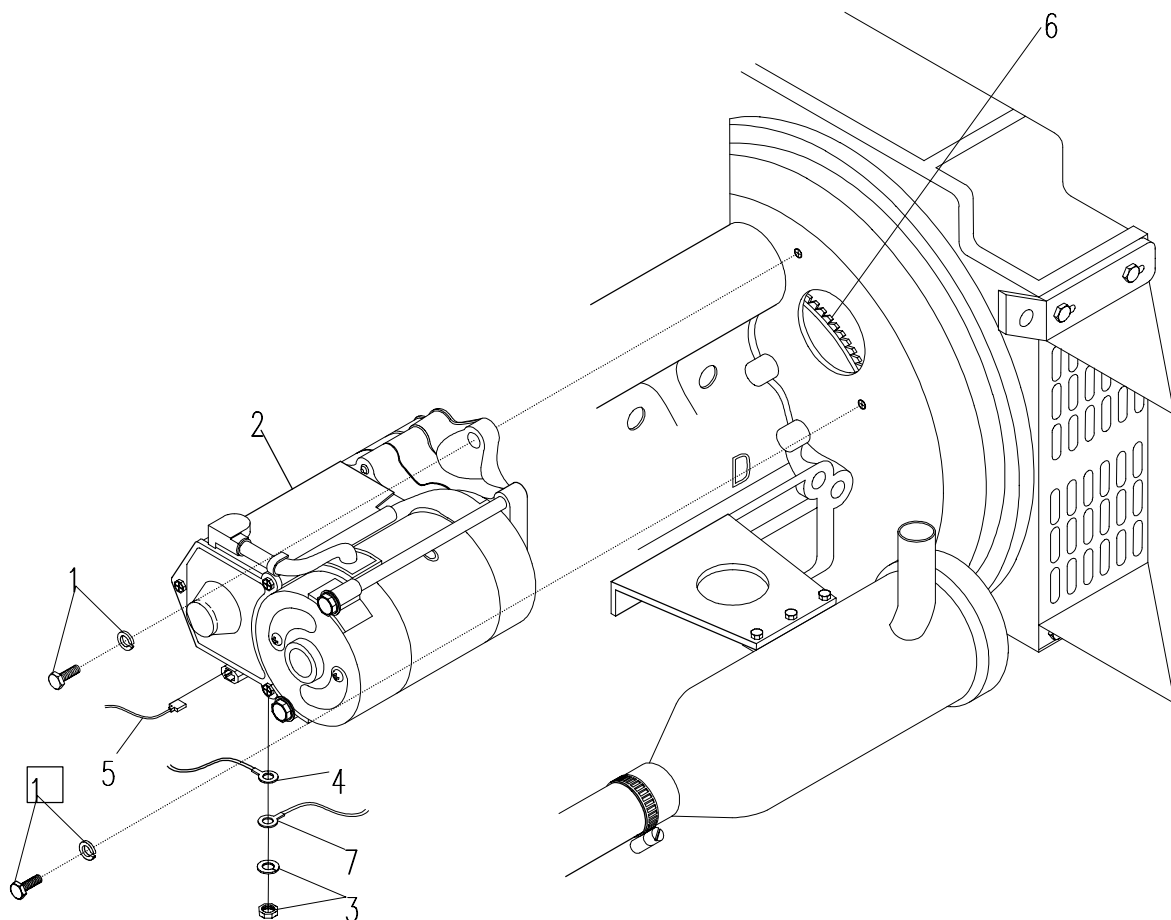

Figure 4-25. Starter
- a. Pull back protective cover and remove one nut and lock washer (3, Figure 4-25) and tag. Remove